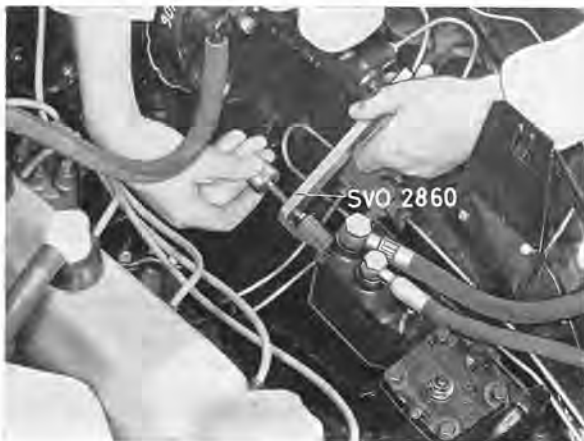

Fig. 6-55. Removing sealing ring
2. Mark up the location of the flange (7) on the control spindle. Slacken the clamping bolt (6) and pull off the flange.
4. Carefully apply tool 2860 to the sealing ring. Tighten the screw (Fig. 6-55). This also tightens the sealing ring. If the ring sticks in the circlip groove, carefully turn the tool backwards and forwards.